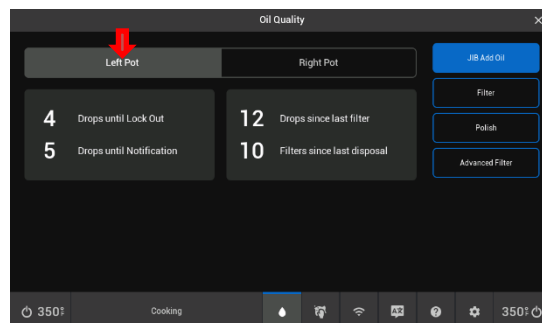

Figure 75 - Choose Pot to Add Oil
- Choose the pot oil needs to be added to **Figure 75**, on a Twin Tank Fryer